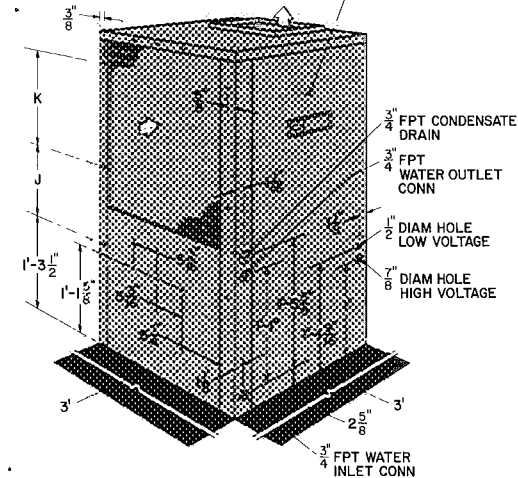

Fig. 2 — Dimensions and Connections — 50HQ
- Provide sufficient space for water piping, condensate drain, wiring and servicing unit. See Fig. 2 and 3. (Units installed with insufficient clearances may have to be removed for major servicing such as compressor or fan motor replacement.)
SUPPLY DUCTWORK — Supply air duct flange is shipped inside unit. Remove flange from shipping location and install on unit supply air opening. Connect supply air ductwork to unit supply air duct connection flange. Refer to Fig. 2 and 3 and Tables 1 and 2 for connection size and location. If necessary, refer to Carrier System Design Manual, Part 2, for system air duct design.
Table 1 — Installation Data — 50HQ (See Fig. 2.)
BRING POWER LEADS INTO UNIT — Extend leads from disconnect per NEC through hole provided (Fig. 2 and 3) into line wiring splice box, Fig. 6.